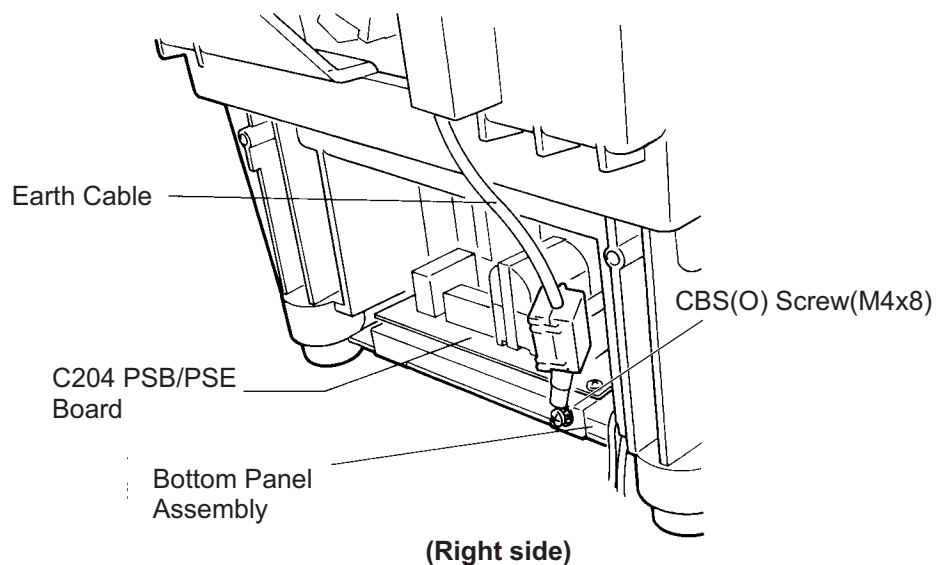

Figure 3-42. Connector Removal (right side)
Step 4: Remove the CBS (O) (M4x8) screw securing the earth cable as shown in Figure 3-42.